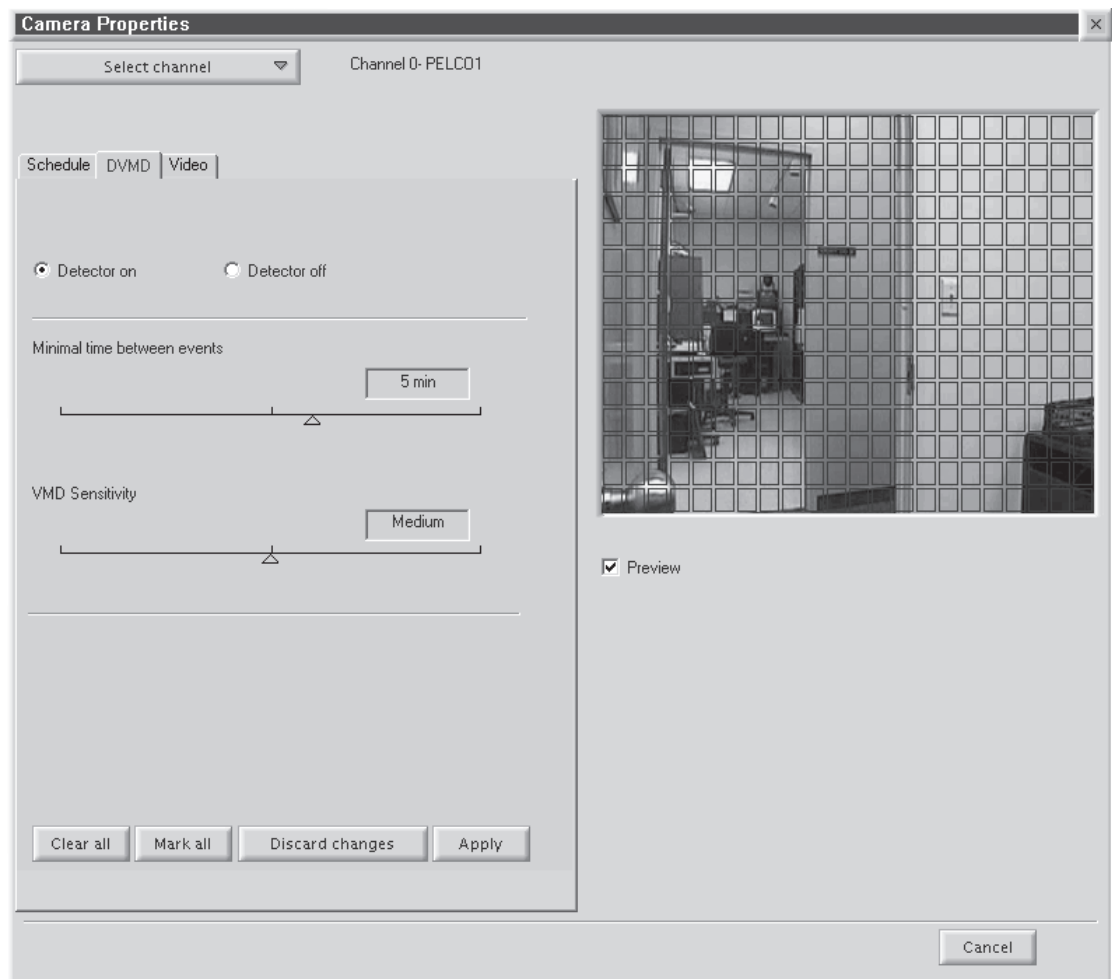

Figure 86. Motion Detection Page
1. Click the DVMD tab. The DVMD page appears. Refer to Figure 86.